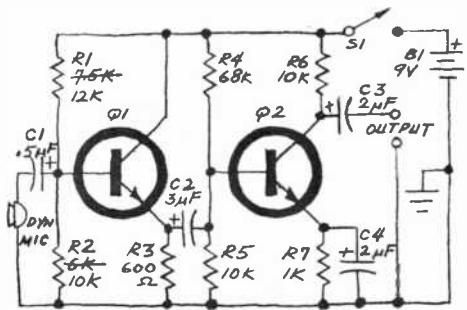

Fig. 8. This is the final circuit layout.
Insert all of the above figures into the circuit as shown in Fig. 8.
- 7. Breadboard the circuit. When substituting resistor values, keep the same ratio between the values and increase or decrease until you come close to something you have. For instance, assume you do not have a 7500- or 6000-ohm resistor for $R1$ or $R2$. You know the values can go up, so find the ratio of $R1/R2$ —which is 1.25. An increase in both values will merely raise the input impedance, which is not objectionable. Thus, as shown in Fig. 8, $R1$ and $R2$ were changed to 12k and 10k, respectively, since they were readily available.